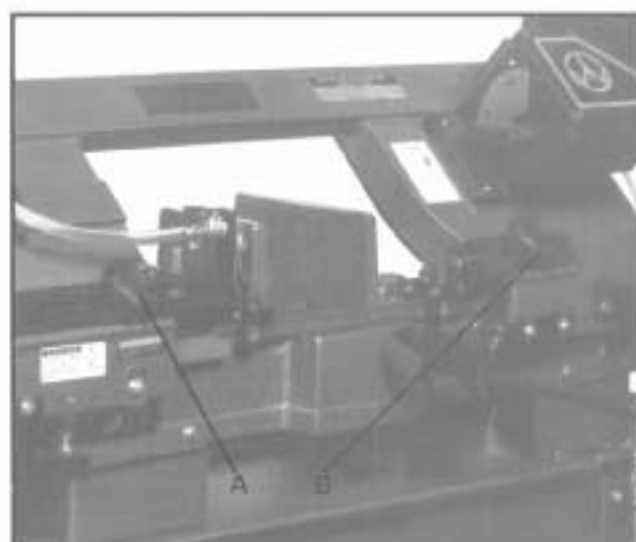

Fig. 4
2. Loosen knob (A, Fig. 4) and knob (B). Slide blade guide assemblies as close as possible to the material without interfering with the cut.
3. Tighten knob (A) and knob (B) and connect machine to the power source.